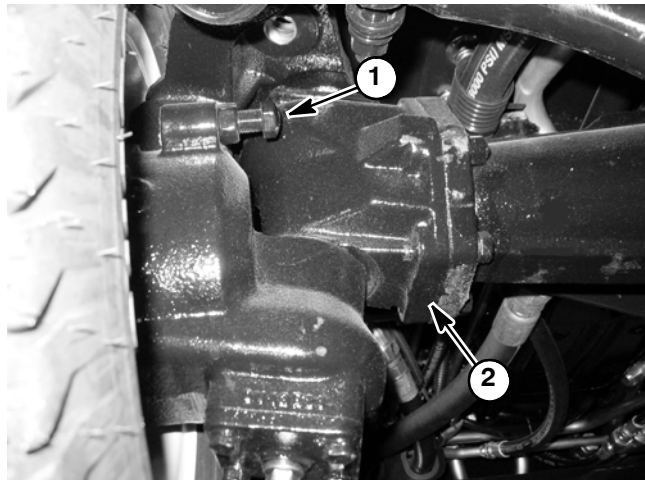

Figure 18
13. Check steering stop bolt adjustment. When the steering cylinder is fully extended (right turn), a gap of 1/16" (1.6 mm) should exist between bevel gear case casting and stop bolt on left axle case. Figure 18 shows stop bolt location.